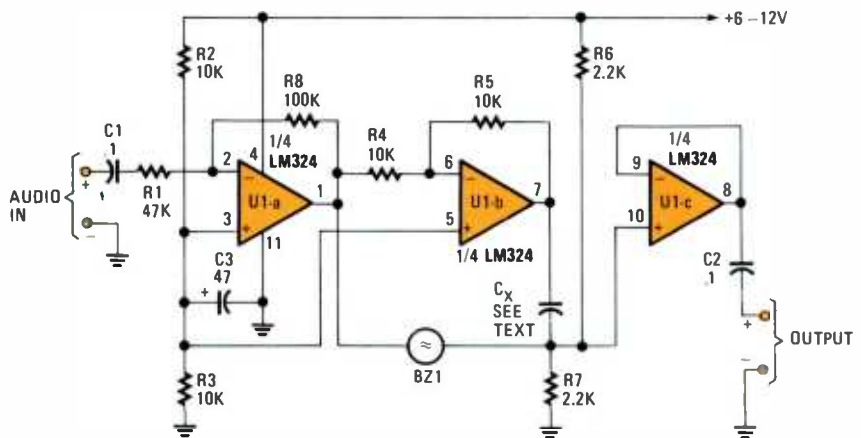

Fig. 4. In this circuit, the piezo transducer functions like a low-frequency, quartz crystal in a narrow band, crystal-filter circuit.
**Low-Frequency Crystal Filter.** Another interesting job that the piezo transducer can perform is to function like a super low-frequency, quartz crystal in a narrow-band crystal-filter circuit. The circuit shown in Fig. 4 is the piezo equivalent of a super-selective crystal filter.
Fig. 4. So that you don't get bored, or think something's gone wrong if the translation takes several seconds, Word For Word keeps you entertained with a screen display of the translator's progress.
As shown in Fig. 3, checkmarks indicate the source and target formats. You then select the source file, enter the name you want to use for the target file, and you end up with the screen display shown in Fig. 4.
Basically, Fig. 4 is entertainment to keep you amused as the translation takes place. A series of travelling dots tells you what percentage of the source was "read in," and a similar series of dots tell you what percentage of the translation was written to disk.